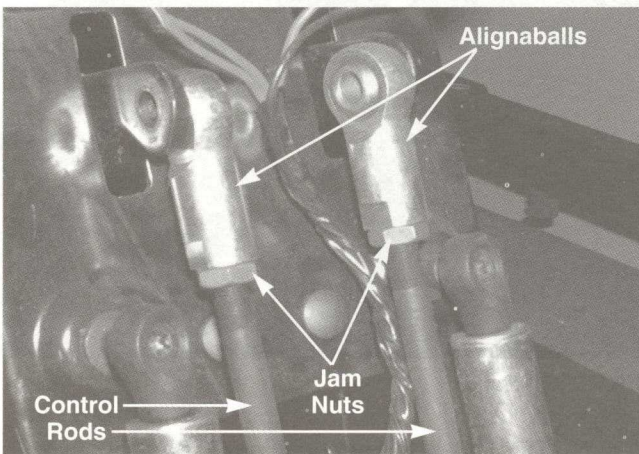

FIGURE 14.
22. With the damper cylinders secured, loosen all four hex jam nuts that maintain the alignaball positions on the control rod assemblies using a 9/16 wrench. See figure 14.